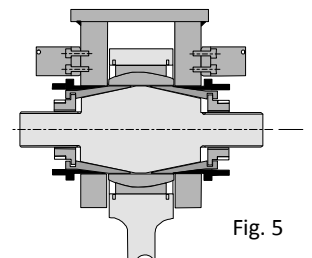

Fig. 5
- 5.1 Mount the outer cones (4) on both sides (see Fig.5).